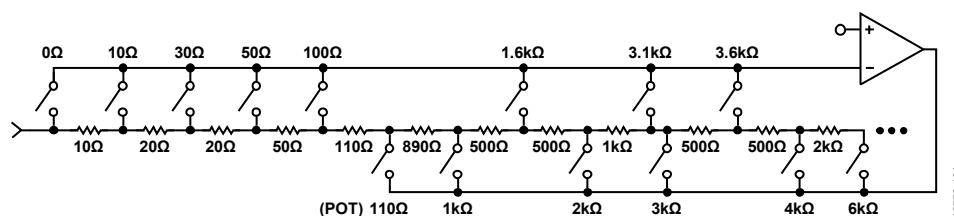
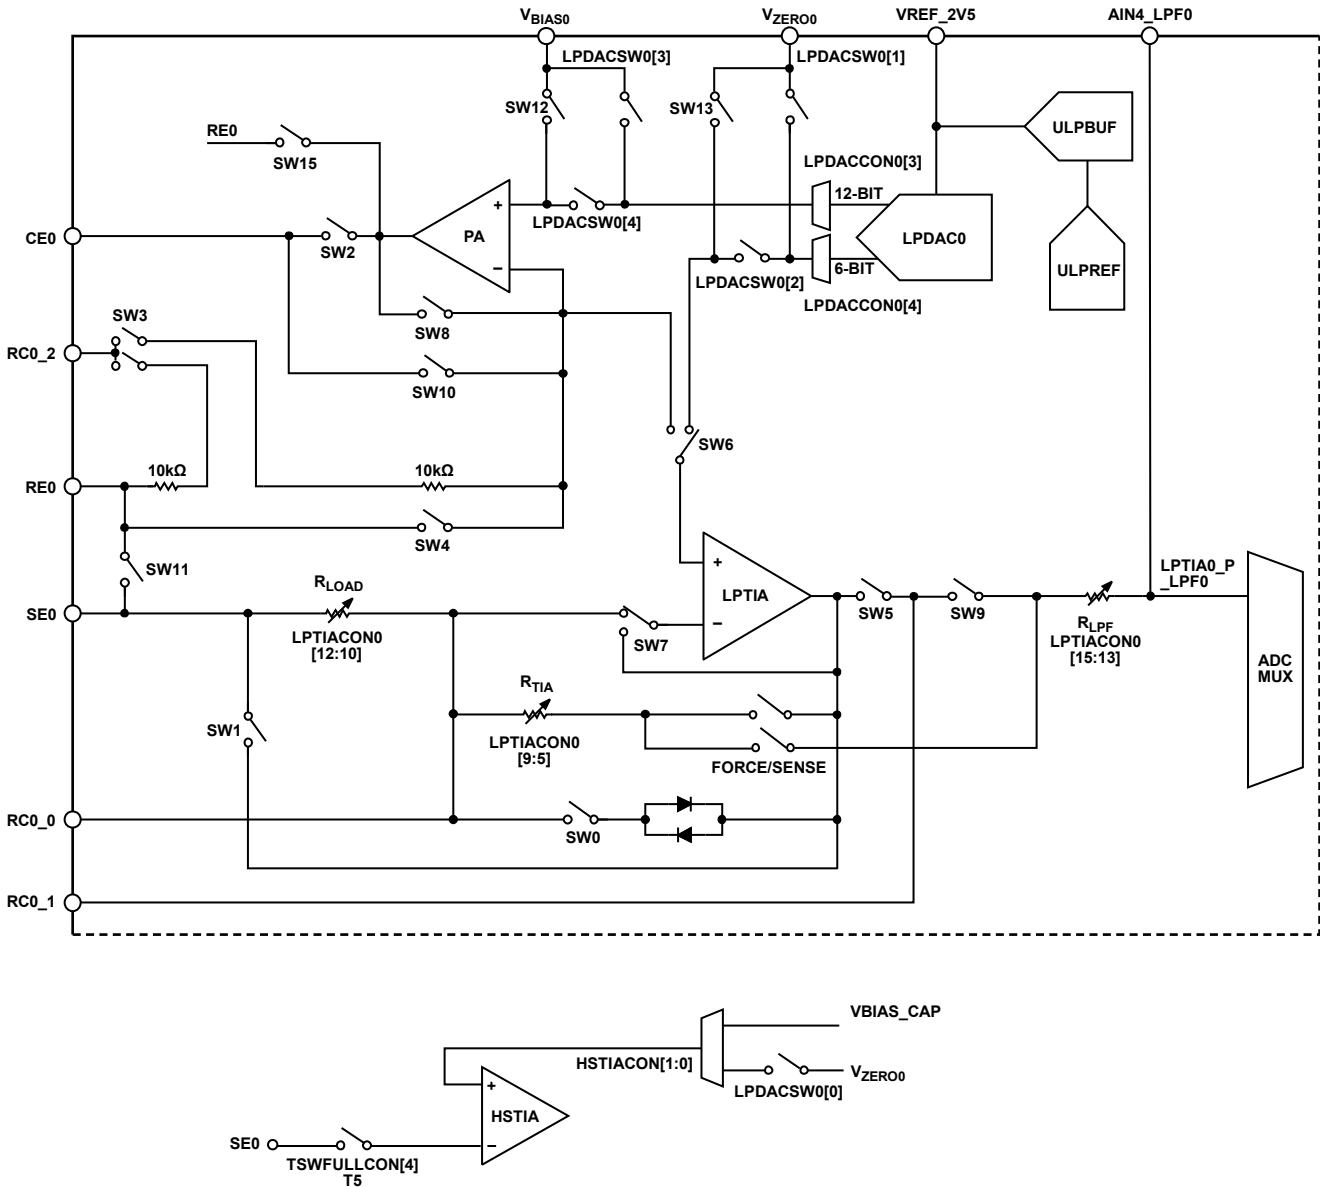

Figure 22. LPTIA  $R_{LOAD}$  and  $R_{GAIN}$  Configuration
Figure 23. Low Bandwidth Loop Switches
The output of the potentiostat can be connected to various package pins through the switch matrix (see the Programmable Switch Matrix section for details). There are a number of configurable switch options around the potentiostat to provide numerous configuration options (see Figure 23).
The potentiostat can also be used a standard buffer output to output  $V_{\text{BIAS0}}$  voltage onto CE0. To achieve this, the inverting input is connected to the output of the potentiostat by closing the SW10 switch, as shown in Figure 23.
There are a number of switches around the low power TIA circuitry. The LPTIASW0 register configures these switches. Figure 23 shows the available switches. When the TIAGAIN bits (Bits[9:5]) in the LPTIACON0 register are set, these switches are closed automatically. When these switches are closed, there is a force/sense circuit with a low-pass filter resistor ( $R_{LPF}$ ) and a capacitor on the AIN4/LPF0 pin that acts as a resistor-capacitor (RC) delay circuit. The LPTIA0\_P\_LPF0 connects the output of the low power TIA low-pass filter to the ADC mux. Analog Devices recommends that the LPTIA0\_P\_LPF0 mux option be selected as the ADC input when using the low power TIA. It is recommended to connect a 100 nF capacitor between the RC0\_0 pin and the RC0\_1 pin to stabilize the low power TIA.
The LPTIACON0[9:5] bits select different gain resistor values for the low power TIA, labeled as  $R_{TIA}$  in Figure 23. The force and sense connections shown on the feedback path of the low power TIA are used to avoid voltage ( $I \times R$ ) drops on the switches, which select different  $R_{TIA}$  settings for the internal  $R_{TIA}$ .
Table 21 describes the recommended switch settings in the low power potentiostat loop for various measurement types. For all measurement types, setting the switch to 1 closes the switch and setting the switch to 0 opens the switch. LPTIASW0[13:0] controls SW13 to SW0, as shown in Figure 23. Figure 22 shows the relationship between the  $R_{LOAD}$  and  $R_{GAIN}$  settings for the LPTIA.  $R_{LOAD}$  is configured by setting LPTIACON0 [12:10].  $R_{GAIN}$  is configured by LPTIACON0[9:5]. When  $R_{LOAD}$  is large, it uses resistors from the  $R_{GAIN}$  bank, reducing the size of  $R_{GAIN}$ . See descriptions in the LPTIACON0 bit fields (Table 22 and Table 24) for details.